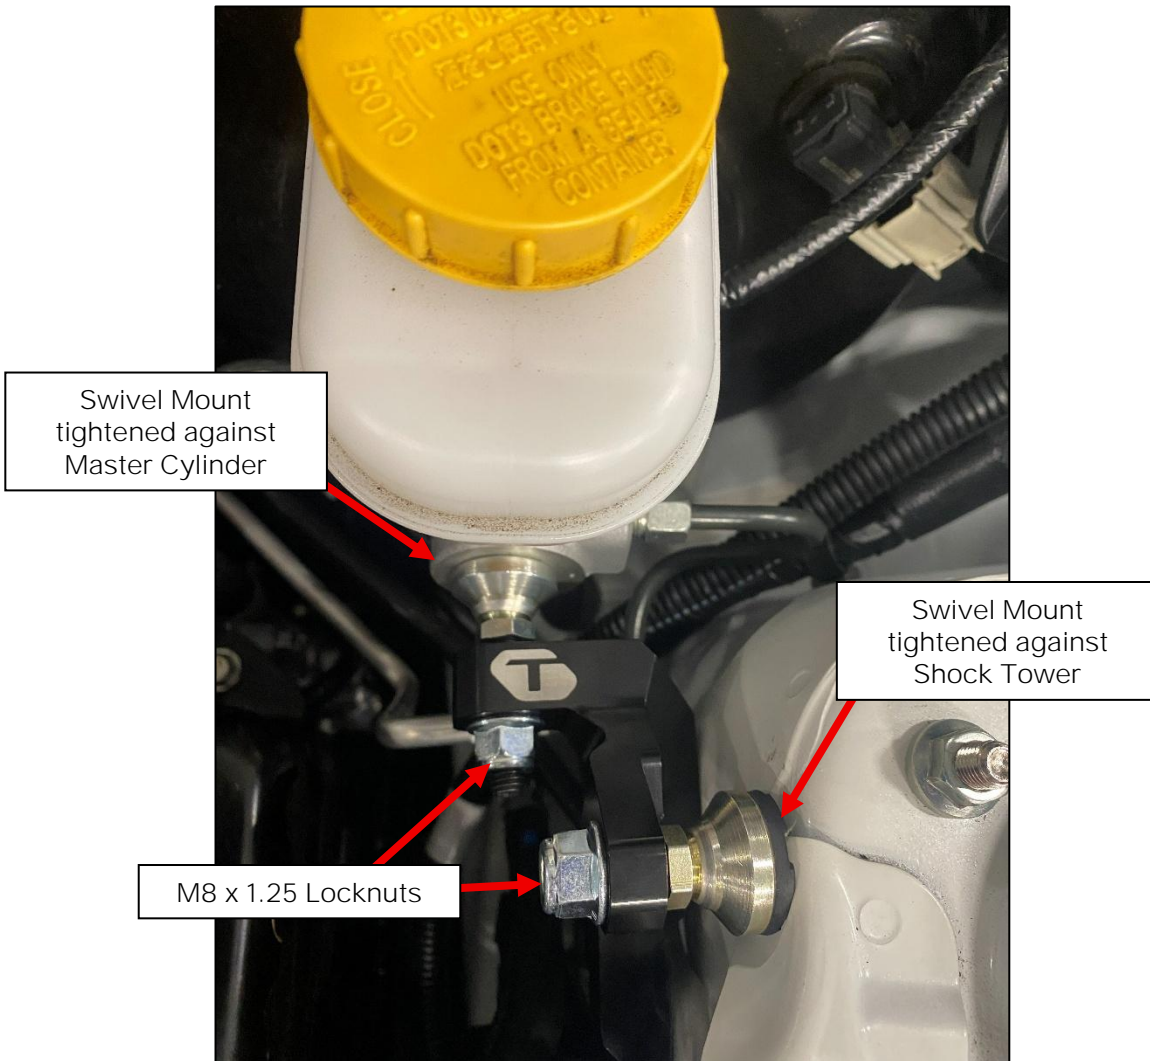

Figure 5
- Adjust the M8 Screws until the Swivel Mounts are tight against the Shock Tower and Brake Master Cylinder. *Figure 5.*
- Locate (2) two M8 x 1.25 Locknuts. Place them on the M8 Screws and tighten them against the Brace to lock the screws in place. *Figure 5.*